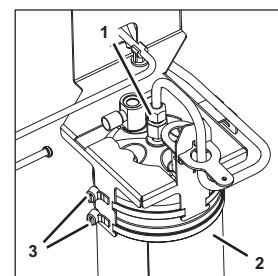

Fig. 82
The non-return valve for carbonator tank has been removed.	see chapter Fig. 82
The non-return valve CO2-IN has been removed.	see chapter Fig. 82
3. Disconnect the still water connecting line to the carbonator tank at the coupling (Fig. 82/1).
4. Remove the cable ties (Fig. 82/3) from the carbonator tank (Fig. 82/2).
5. Remove the carbonator tank (Fig. 82/2) from the unit.
6. Position the new carbonator tank (Fig. 82/2) within the unit.
7. Attach the carbonator tank (Fig. 82/2) using cable ties (Fig. 82/3).
8. Attach the still water connecting line to the carbonator tank at the coupling (Fig. 82/1).